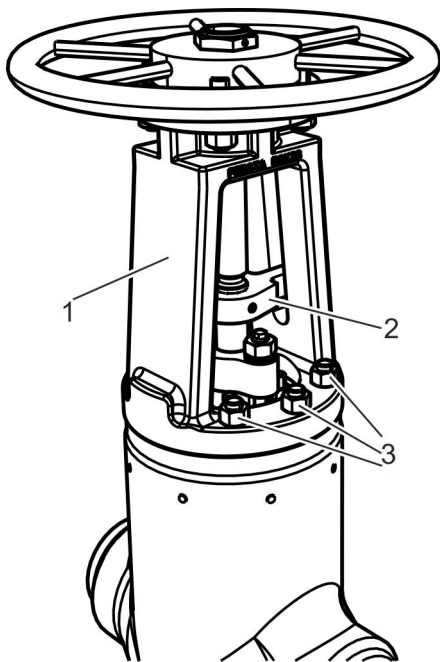

Fig. 23: Bonnet and anti-twist device
- 16.** ▶ Mount the bonnet (Fig. 23/1) and the anti-twist device (Fig. 23/2).
- 17.** ▶ Attach the fastening screws (Fig. 23/3) of the bonnet and tighten in a cross pattern as specified by the manufacturer.